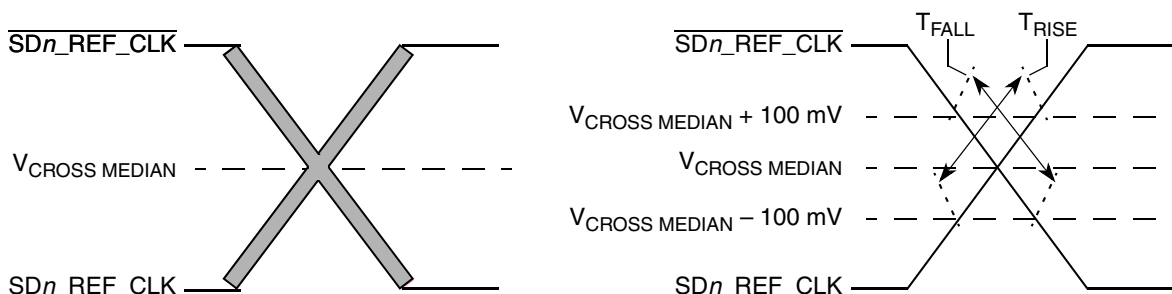

Figure 67. Single-Ended Measurement Points for Rise and Fall Time Matching
4. Matching applies to rising edge rate for SDn_REF_CLK and falling edge rate for $\overline{SDn_REF_CLK}$. It is measured using a 200 mV window centered on the median cross point where SDn_REF_CLK rising meets $\overline{SDn_REF_CLK}$ falling. The median cross point is used to calculate the voltage thresholds the oscilloscope is to use for the edge rate calculations. The Rise Edge Rate of SDn_REF_CLK should be compared to the Fall Edge Rate of $\overline{SDn_REF_CLK}$, the maximum allowed difference should not exceed 20% of the slowest edge rate. See Figure 67.